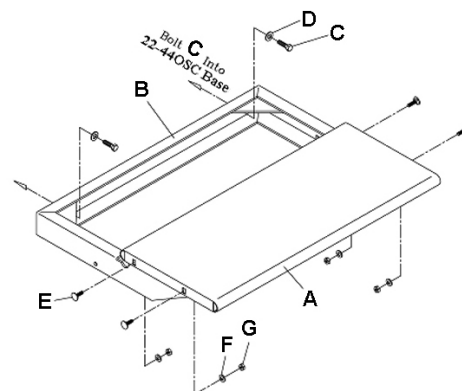

Figure 6
1. Bolt the *base bracket* (B, Fig. 6) to the sander base with two 3/8"-16 x 1" hex head cap screws (C) and two 3/8" flat washers (D). Tighten the screws.
2. Mount the table (A) to the base bracket (B) with four 1/4"-20 x 3/4" carriage bolts (E), four 1/4" flat washers (F) and four 1/4" hex nuts (G). **Note:** Leave the carriage bolts loose for now.
3. Place a straight edge on the conveyor bed and extending out over the extension table. Raise or lower the extension table until it is level with, or slightly below, the surface of the conveyor belt. Tighten the hex nuts (G).